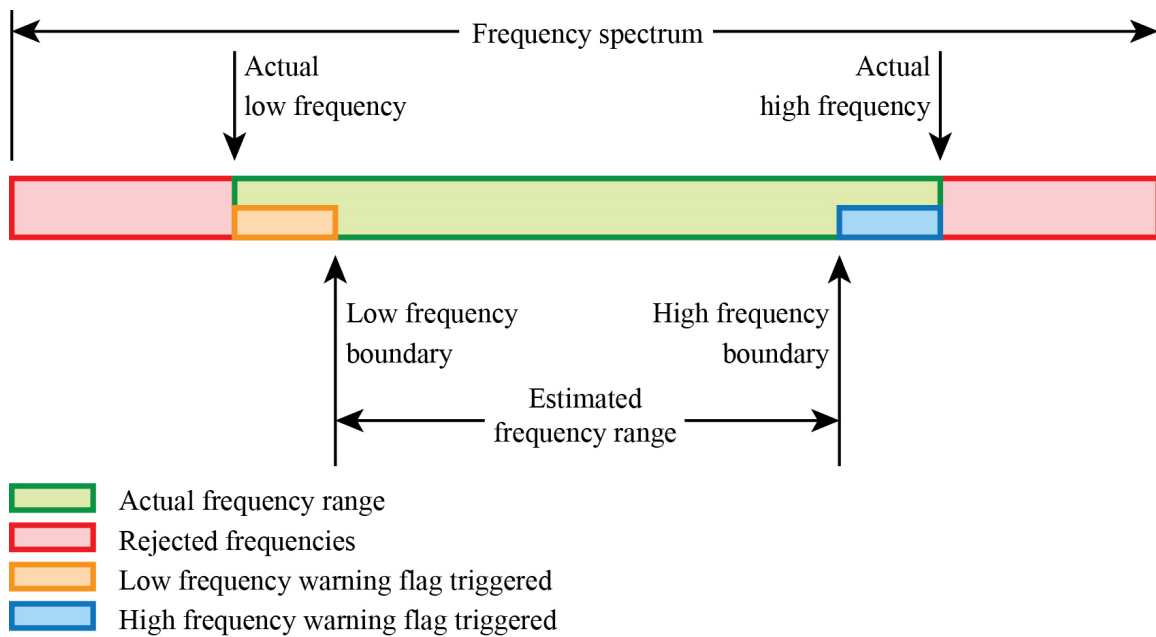

FIGURE 9-5. Relationship of estimated- and actual-frequency ranges and frequency warning flags
FIGURE 9-5 (p. 40) shows how boundaries and ranges relate to each other:
- When a resonant frequency falls between the estimated- and actual-frequency ranges. This may indicate a change in the output of a sensor before the output moves outside the actual-frequency range. See FIGURE 9-5 (p. 40).